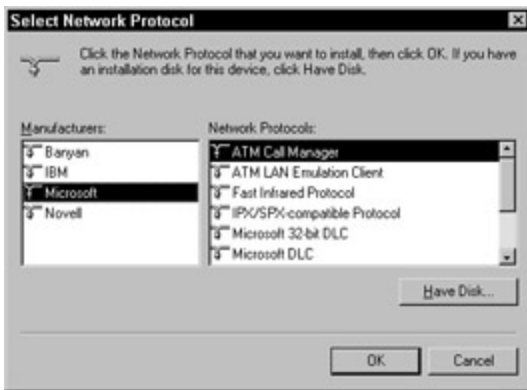

Figure 22-5: The Select Network Protocol window is used to add new dialup or network protocols to a Windows PC.
5. To configure the network, open the Control Panel, select the Network icon, and choose the Configuration tab. Click the Add button. On the window that displays next, highlight the Protocol selection and click its Add button to display the Select Network Protocol window (see Figure 22-5). Highlight Microsoft and find TCP/IP in the right pane. Click OK to return to the Network window and OK to exit the window.